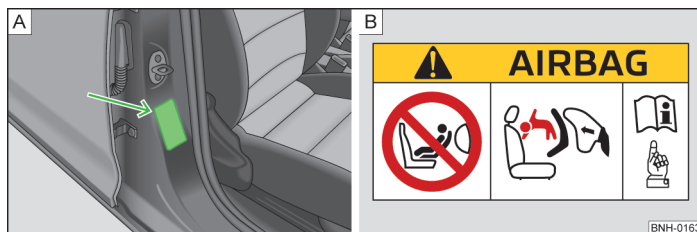

Fig. 14 Sticker on the B column on the front passenger side.
- This is also clearly stated on the sticker which is located on the B column on the front passenger side » *Fig. 14*. The sticker is visible upon opening the front passenger door. In some countries, the sticker is affixed to the front passenger sun visor.